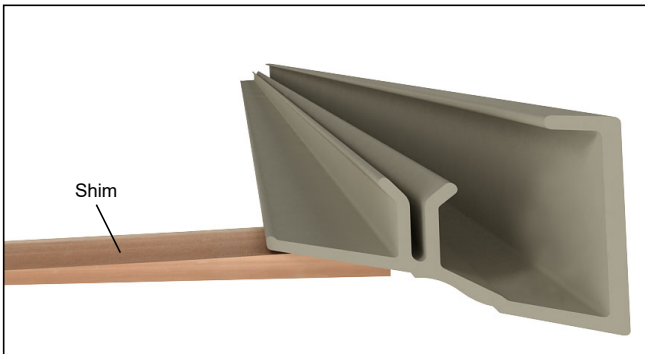

Figure 16
4. Shim under the interior edge before applying screws to corner key. See *figure 16*.